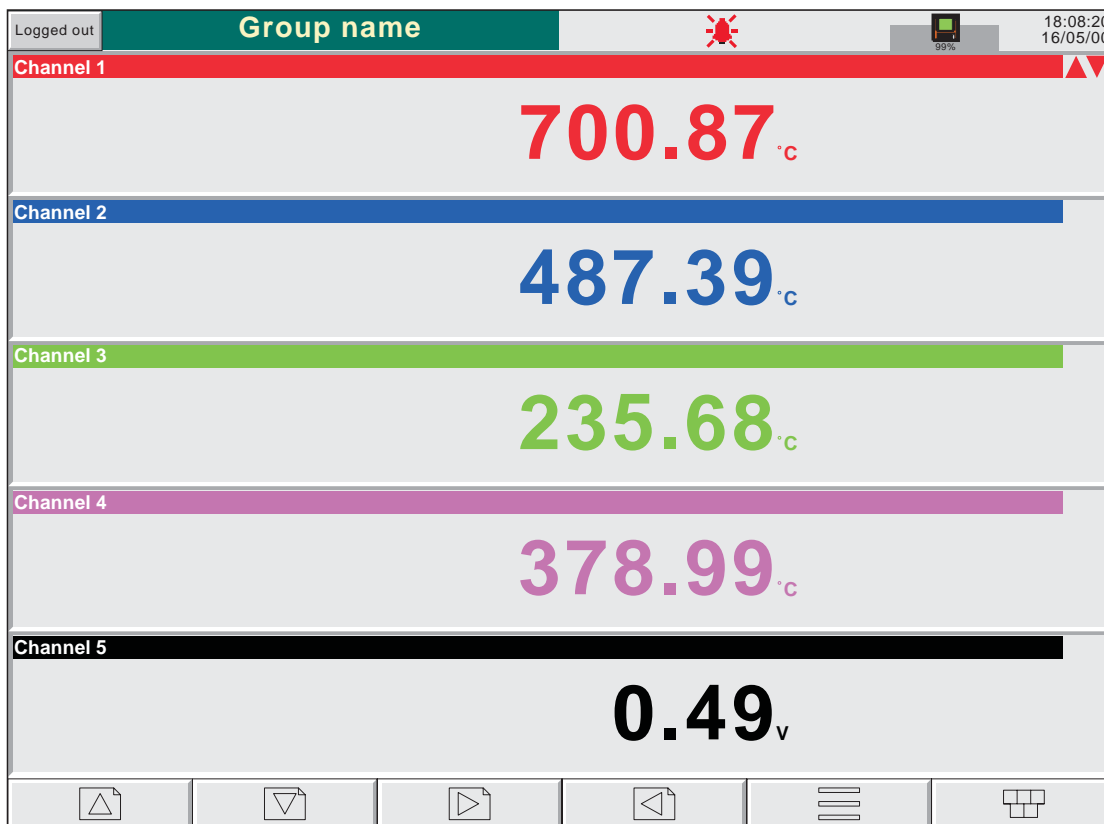

Figure 3.4.5a Numeric display mode (1 to 5 channels)
Entered from Horizontal bargraph mode by means of the down arrow key, or selected using the **Root Menu** 'Goto View' key, this display mode shows the Process Variable (PV) values as digital values. The format (which is automatically selected) is based on the number of channels in the display group. Figures 3.4.5a, 3.4.5b and 3.4.5c, show typical examples of the one column (up to five channels), two column (six to 18 channels) and three column versions (19 to 24 channels) of this display mode respectively. Within each version, the process variable display areas expand or contract to fill the screen.